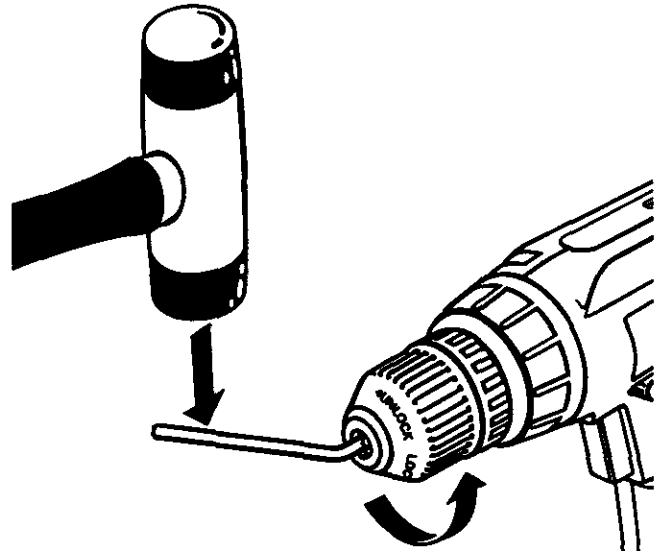

Fig. 12
- Insert allen wrench in chuck and tighten chuck jaws securely. Tap sharply with a mallet in a counterclockwise direction. This will loosen chuck on the spindle. It can now be unscrewed by hand. See Figure 12.